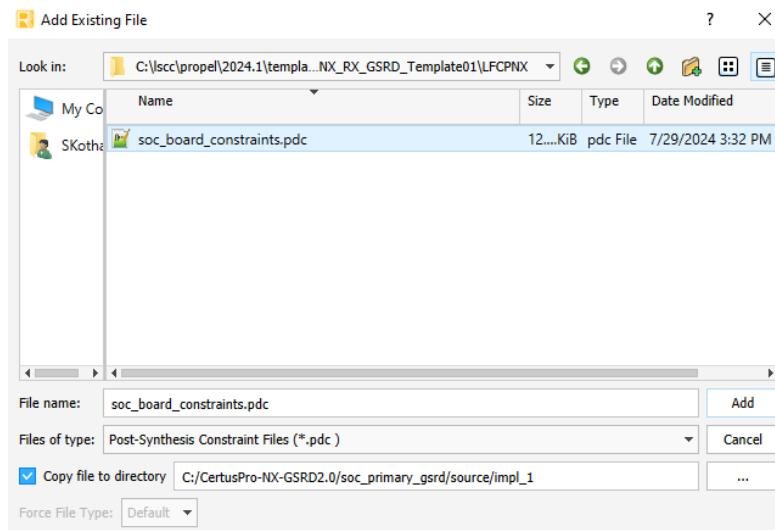

Figure 8.52. Select **soc_board_constraint.pdc** File
7. Similarly, add the `soc_board_constraints.pdc` file to the Post-Synthesis Constraint Files as shown in Figure 8.52. Click **Add**.